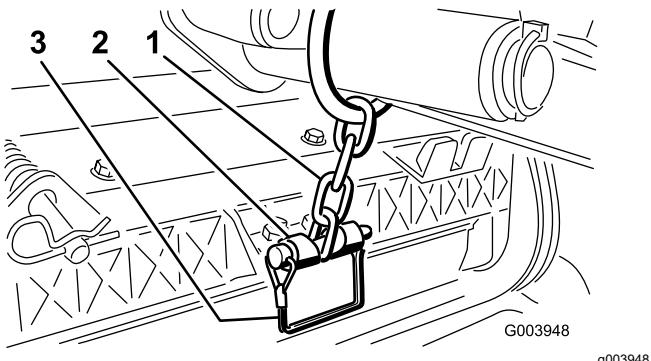

Figure 12
**Note:** Use the slot if a steering cutting unit is desired or use the hole if the cutting unit is to be locked in position (Figure 12).
- Secure the lift-arm chain to the chain bracket with the snapper pin (Figure 12).